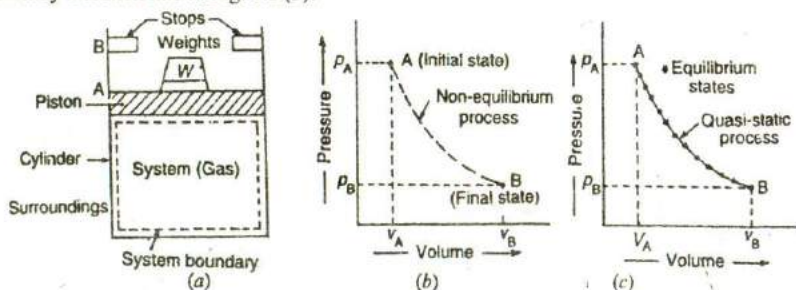

Fig. 1.6. Non-equilibrium and quasi-static (or quasi-equilibrium) process.
Consider a system (gas) enclosed in a cylinder and piston arrangement as shown in Fig. 1.6 (a). Let the system be initially in equilibrium state when the piston is at A, where the pressure is p_A , volume v_A and temperature T_A as shown in Fig. 1.6 (b). The weight (W) on the piston is composed of number of small weights which balances the upward force exerted by the system. If the whole weight is removed from the piston, then there will be unbalanced force between the system and the surroundings and the piston will move upwards till it hits the stops at B. At this point B, the system again comes to an equilibrium state where the pressure is p_B , volume v_B and temperature T_B . But the intermediate states through which the system has passed, are non-equilibrium states whose properties (pressure, volume and temperature) are not uniform throughout the system and thus the state of the system cannot be well defined. Such a process is called *irreversible or non-equilibrium process*, as shown by a broken line in Fig. 1.6 (b).